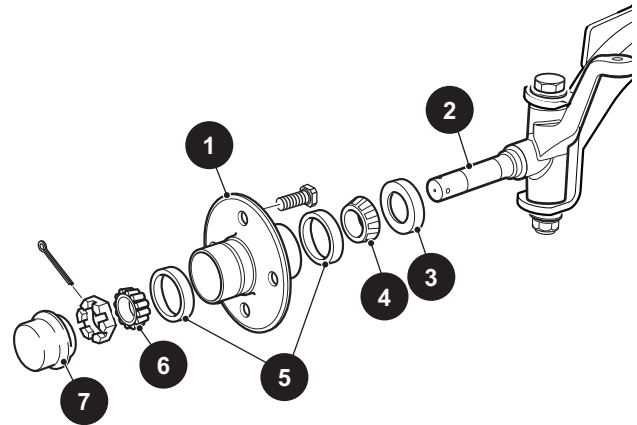

Figure 10 Wheel Bearing Replacement
Remove hub (1) from spindle (Ref. Figure 10). See the *Hub Replacement* on page 33.